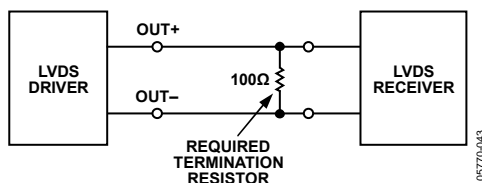

Figure 41. LVDS Requires Far End Termination
- Reduced kickback noise: LVDS outputs are current output stages requiring a $100\ \Omega$ terminating resistor at the receiver, differing from CMOS outputs that generally do not require termination (see Figure 41).